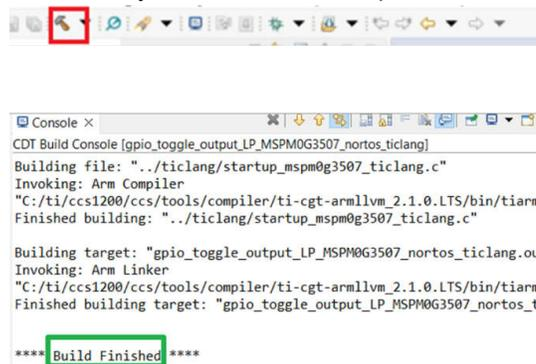

Figure 2-35. Successful Build
- As you finish evaluating the software, click “build” icon in the main toolbar, as shown in Figure 2-35. The appearance of “Build Finished” shows your successful compilation.